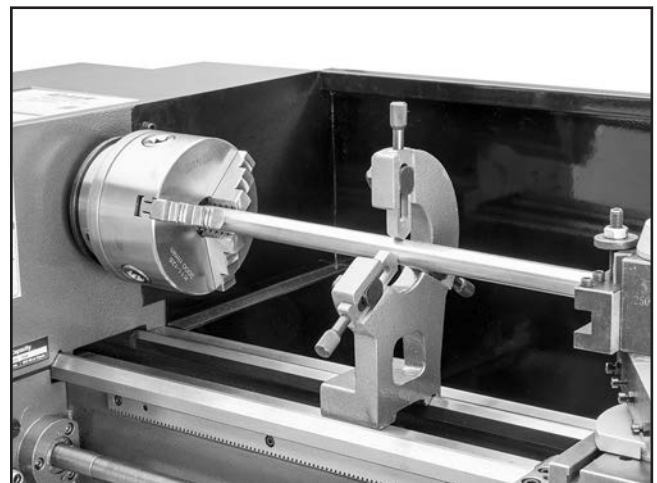

Figure 61. Fingers adjusted to touch workpiece.
4. Use finger adjustment knobs to position fingers so they just touch workpiece (see **Figure 61**) without causing deflection, then tighten finger lock nuts.